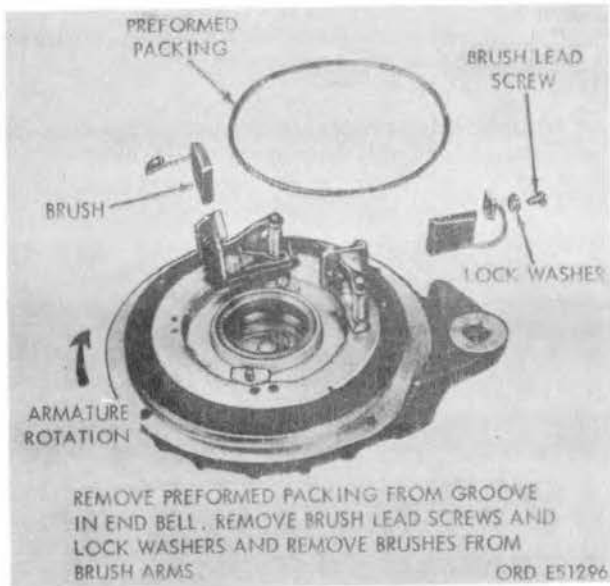

FIGURE 14. REMOVING PREFORMED PACKING AND BRUSHES.
b. Disassemble commutator end bell as shown in figures 14 through 16.